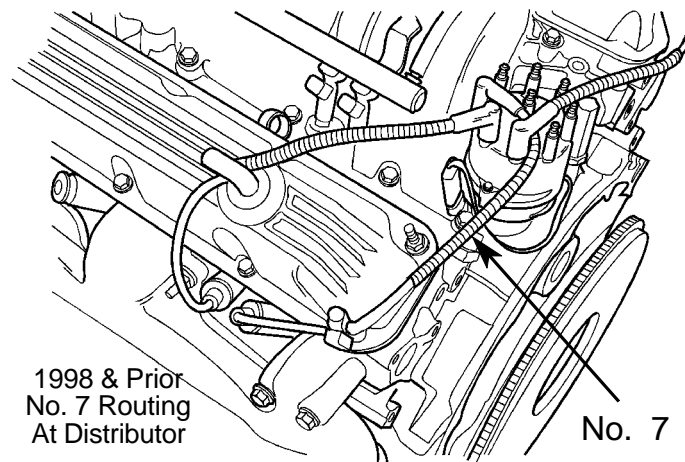

FIGURE 8
4. No. 7 Cylinder Plug Wire Routing (Figure 8 and 9)
- A. Verify that the No. 7 cylinder plug wire crosses over the distributor cap and leaves the distributor cap between the No. 3 and the No. 6 tower terminals (Figure 8). This is the original wire routing for 1998 and prior model years.